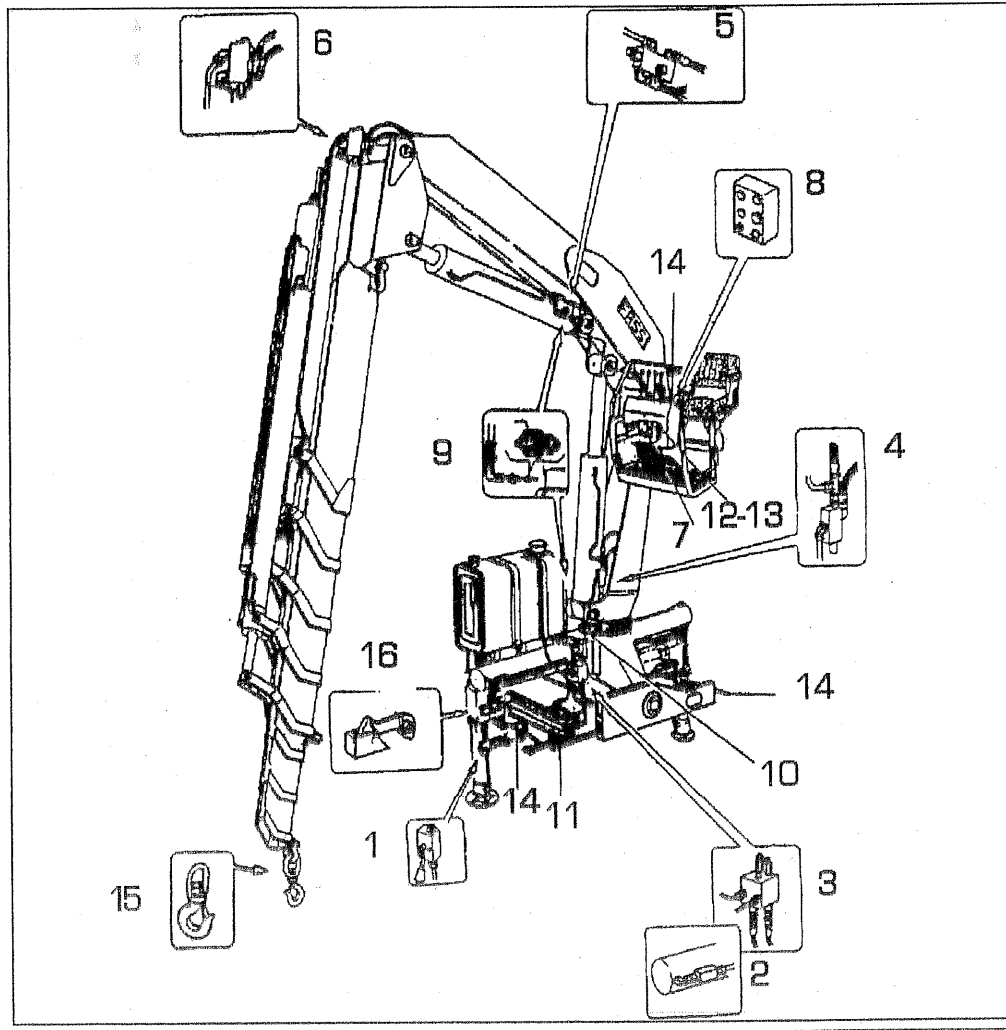

fig. 8
**Version with ground controls for outriggers and top seat controls for crane (fig.8)**